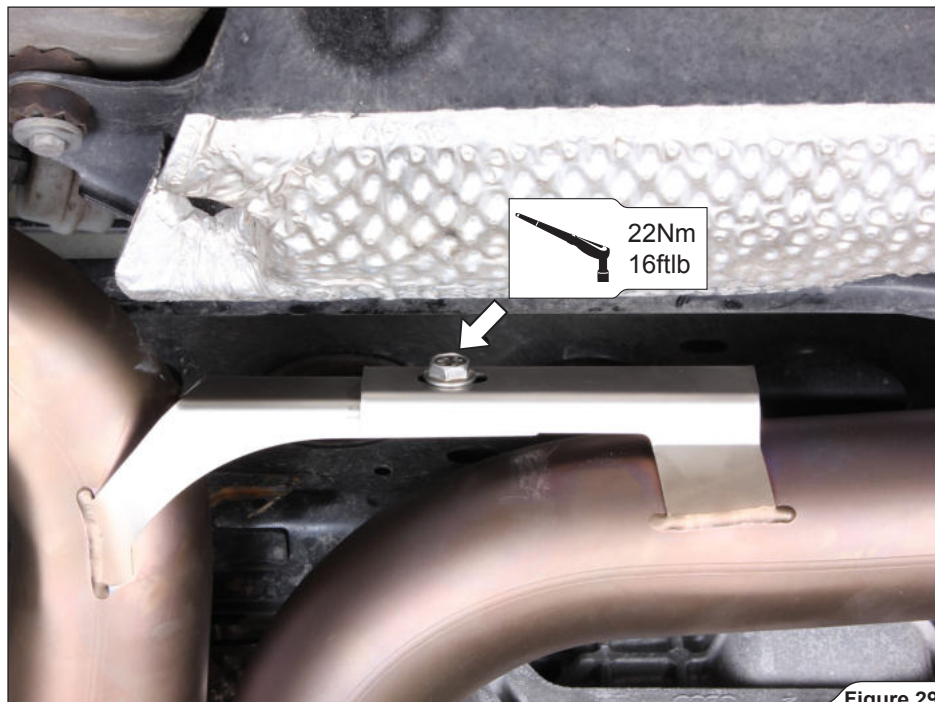

Figure 29
11. Tighten the mufflers' connection (using bolt and nut from Akrapovič installation kit) and mufflers - collector joints' clamps to the specified torque (**Figure 29, 30**).